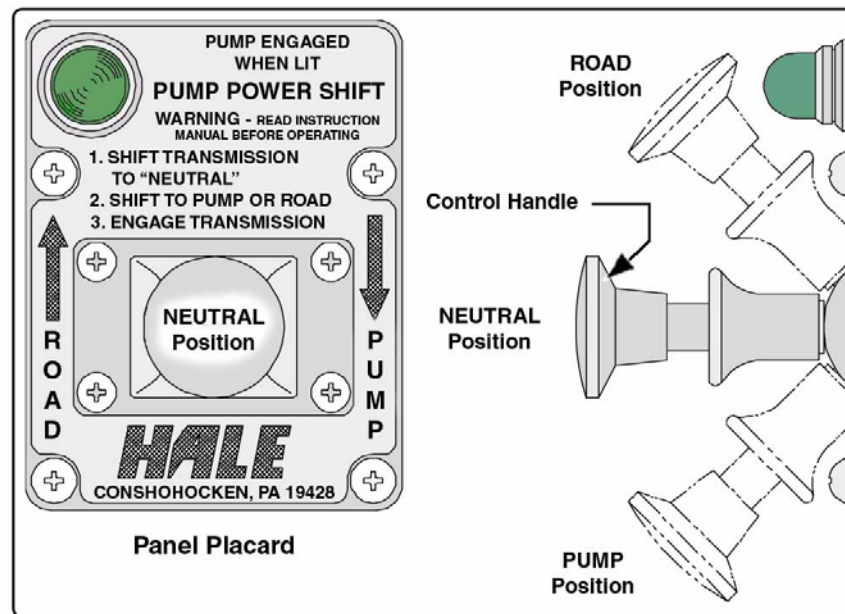

Figure 4-1: Driver's Compartment Indicator Lights
**For PTO operation (Qmax-U, Qtwo-U, and Qpak-J pumps),** engage the PTO (power take-off) per the PTO manufacturer’s instructions (move the in-cab pump shift control valve to the PUMP position). The GREEN shift warning lights illuminate, indicating a complete shift. (See Figure 4-1: “Driver’s Compartment Indicator Lights” on page 55.)
- If the shift does not complete, then shift the transmission back to NEUTRAL (N) and repeat the entire procedure.
5. Engage the PTO (power take-off) per the PTO manufacturer's instructions (move the in-cab pump shift control valve to the PUMP position). The GREEN shift warning lights illuminate, indicating a complete shift. (See Figure 4-1: "Driver's Compartment Indicator Lights" on page 55.)
4. Move the in-cab pump shift control valve to the PUMP position. The shift warning lights illuminate, indicating a complete shift. (See Figure 4-1: “Driver’s Compartment Indicator Lights” on page 55.)